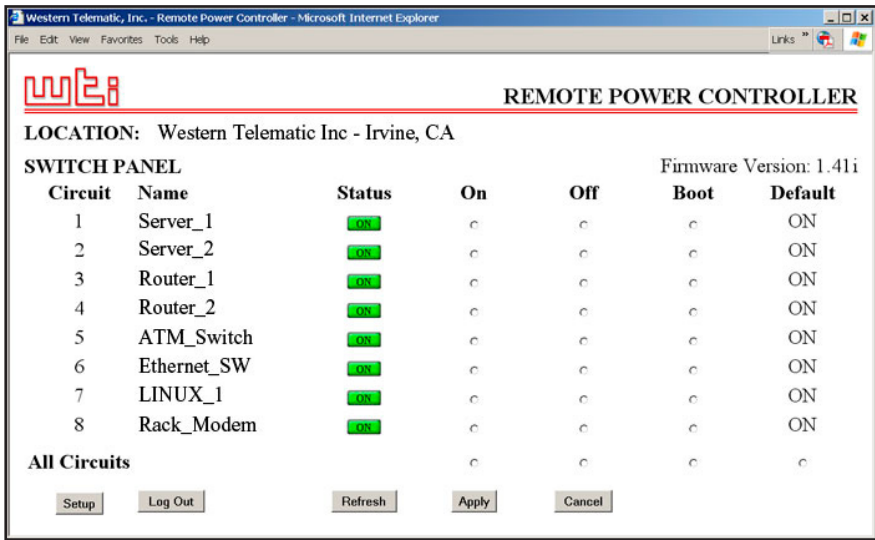

Figure 6.1: Circuit Status Menu - Web Browser Interface (Sample Values Shown)
When you login to the RPC command mode using the Web Browser Interface, the first screen that is displayed is the Circuit Status Screen (or "Switch Panel".) The Circuit Status Screen (Figure 6.1) lists the current On/Off status of the RPC's Switched Circuits and includes a series of "radio buttons" which are used to control switching and rebooting of the circuits.
2. When the Circuit Status Screen (Figure 6.1) appears, note that the screen includes a status field and On/Off/Boot controls for each of the RPC's Switched DC Circuits.